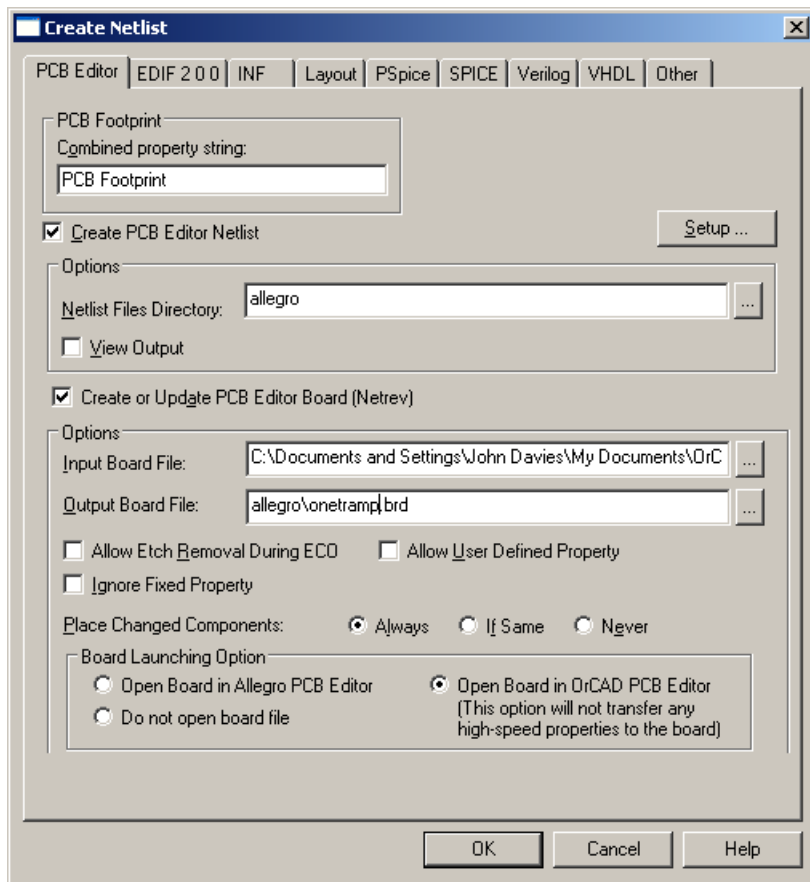

Figure 7. Completed dialogue box for netlisting the design and sending it to PCB Editor. Your file names will be different.
2. Select Tools > Create Netlist... from the menu bar, which brings up a dialogue box as in figure 7 on the next page. Make sure that the PCB Editor tab is active.
9. The entries in the dialogue box should now resemble figure 7 except that your pathnames are different. Click OK to dismiss this dialog box and start the netlister.